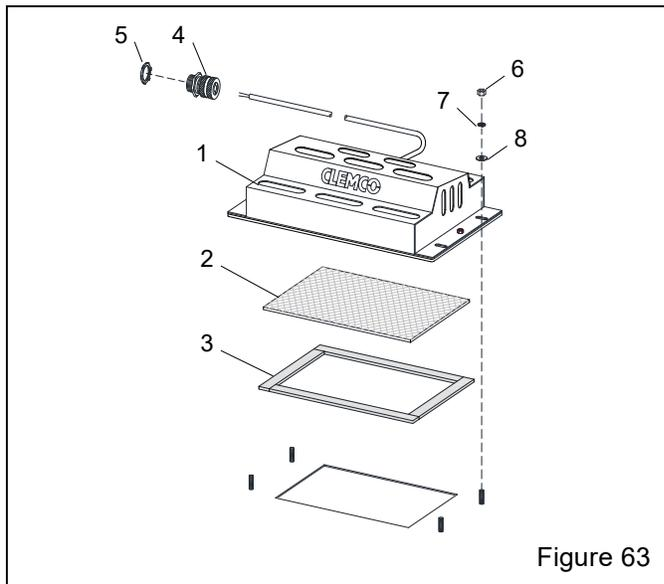

Figure 63
10.6 LED Light Assembly – Figure 63